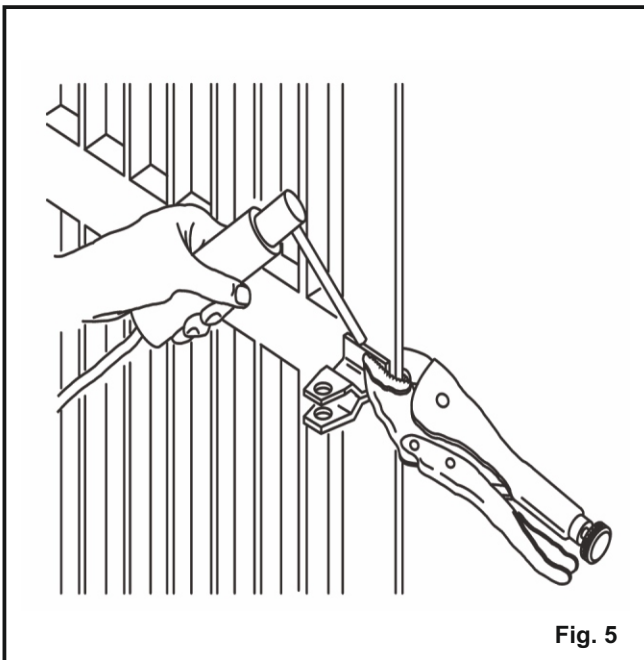

Fig. 5
M) Remove the operator from its temporarily and permanently weld the front attachment on the wing (Fig. 5);